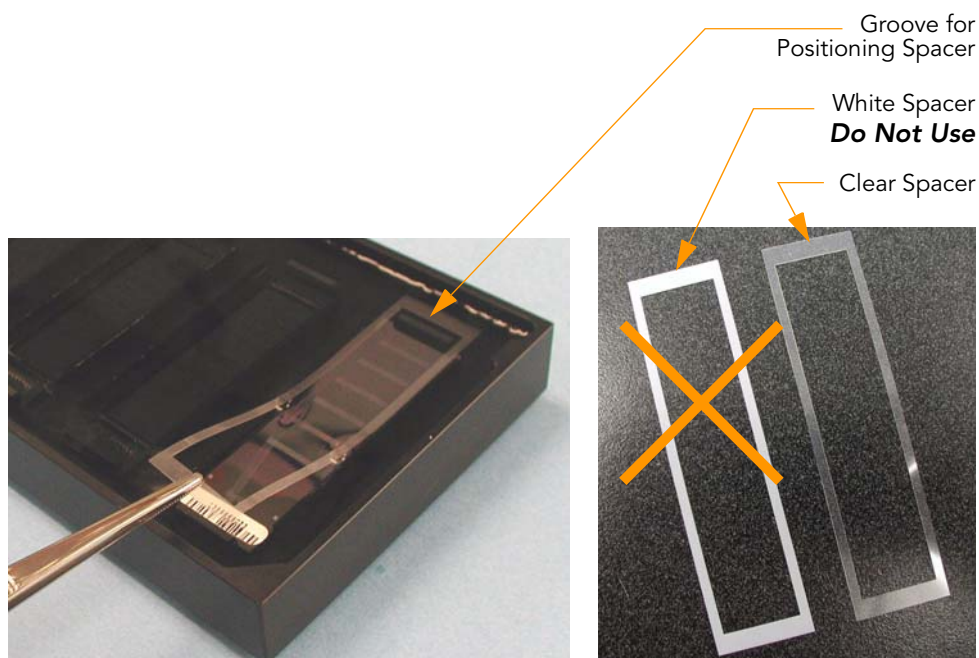

Figure 48 Placing Clear Plastic Spacer onto BeadChip
3. Place a clear spacer onto the top of each BeadChip (Figure 48). Use the Alignment Fixture grooves to guide the spacers into proper position.